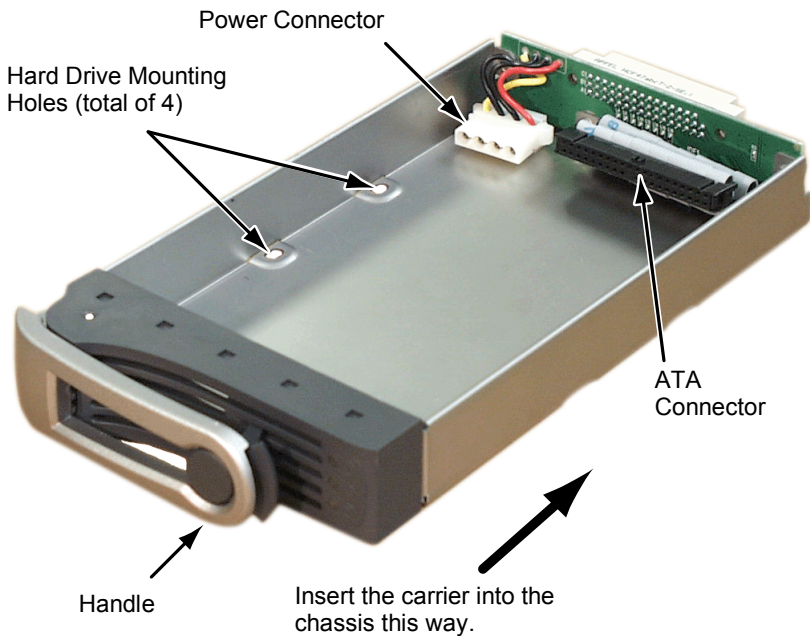

Figure 4. Drive Carrier
2. Pull the Drive Carrier Latch Handle and remove an unused Drive Carrier (see Figure 4) from the UltraTrak. Begin at the right and work left.